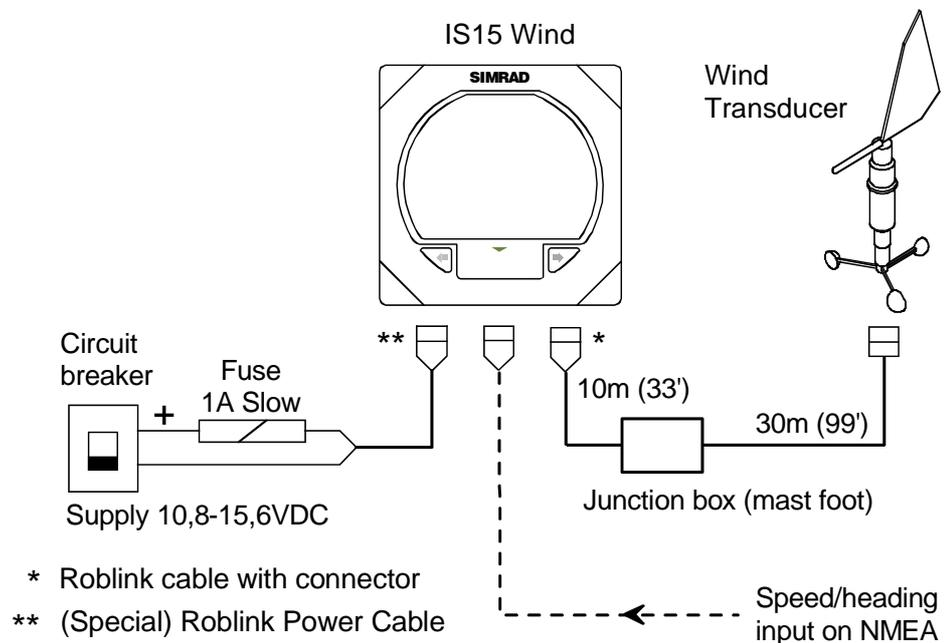

Figure 1-1 Basic IS15 Wind System
- Rev. J 1 Amp fuse included in Roblink Power Cable, Figure 1-1 and 5-3.
This cable is only required when using a single IS15 Wind instrument as stand alone, see Figure 1-1.